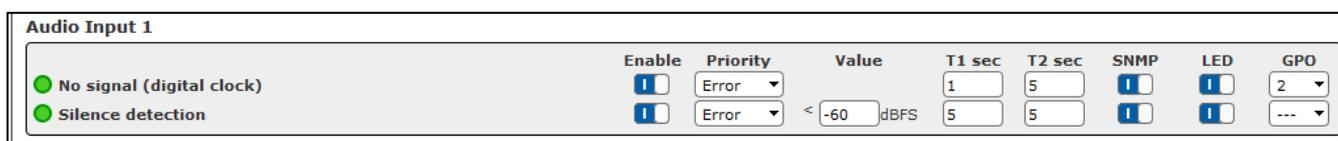

Figure 20: Alarm Settings – Indication of audio data in the audio inputs
1. Open the configuration menu Audio Input 1-8 in the window Alarm under **System Settings**→**Alarm** in the web interface of the MM08E (Figure 20).